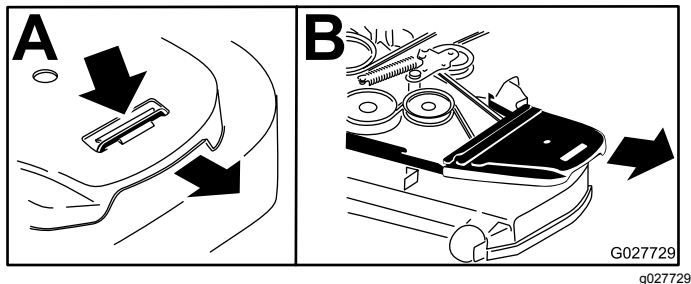

Figure 98
5. Remove the plastic belt cover (Figure 98).
4. Remove the belt covers (Figure 98).